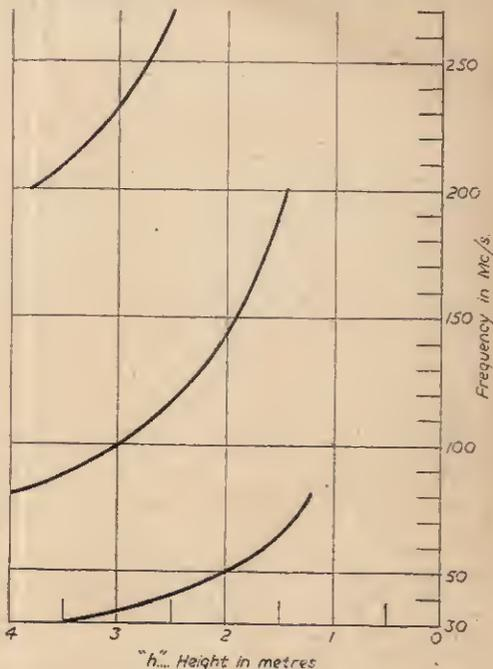
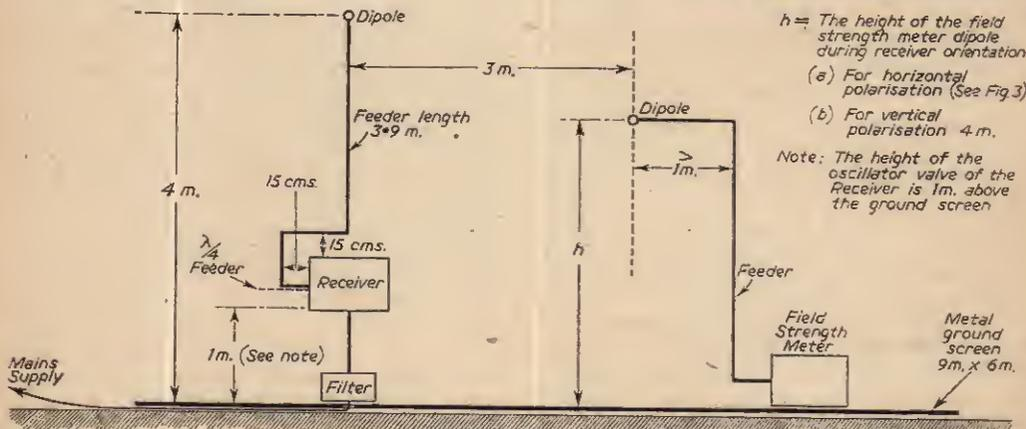

Fig. 3. — Field strength meter aerial height during receiver orientation.
Fig. 2. — Measurement of R.F. oscillator radiation.
(1) Set up the apparatus as shown in Fig. 2, centrally on a wire mesh ground screen of dimensions 9 x 6 metres. All structures and supports should be
- (2) Set the field strength meter dipole in the horizontal position at the height shown in Fig. 3 corresponding to the receiver oscillator frequency, with its length resonant to this frequency or to 80 Mc/s, whichever is the higher.
- (3) Rotate the receiver to the position which gives the maximum reading on the field strength meter.
- (4) Adjust the height of the field strength meter aerial to the position which gives the maximum reading. Note this reading.
- (5) Insert the additional length of feeder (mentioned at the end of (1) above) nearest to the frequency in use in the position shown in Fig. 2, and repeat stages 3 and 4.
- (6) Rotate the receiver dipole through 180 deg.